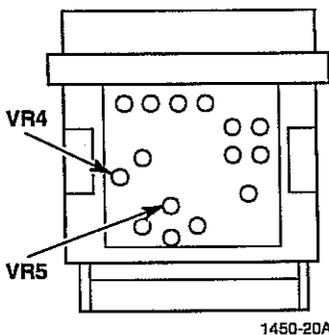

Figure 3-15.
- b. Adjust VR4 (Figure 3-15) for  $3.00 \text{ VDC} \pm 0.05 \text{ VDC}$ .
- b. Adjust VR5 (Figure 3-15) for  $3.00 \text{ VDC} \pm 0.05 \text{ VDC}$ .